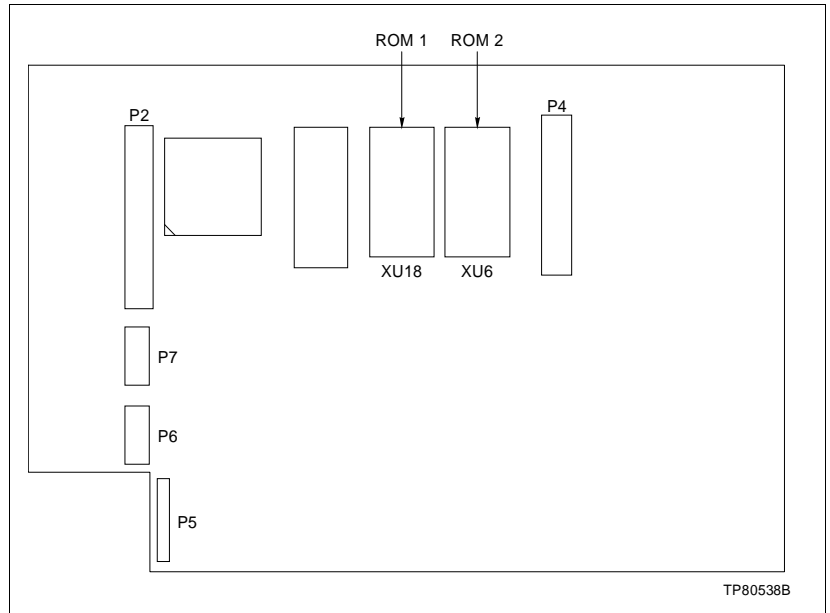

Figure 8-1. Location of ROMs on Operator Interface Board
3. If just replacing ROM 1 or ROM 2, refer to Figure 8-1 for the locations.